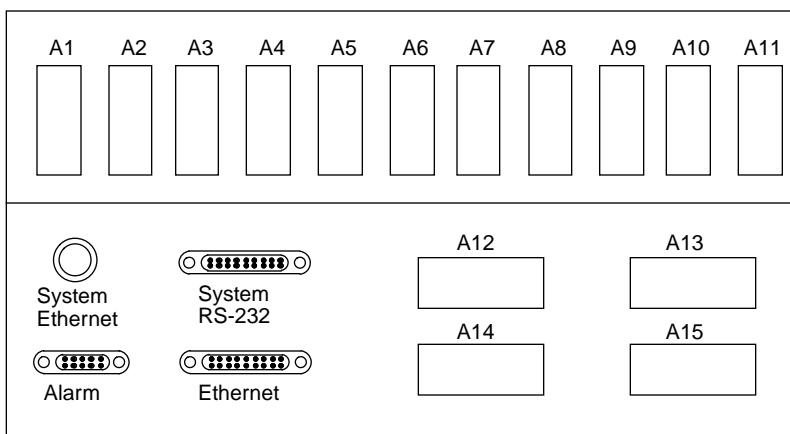
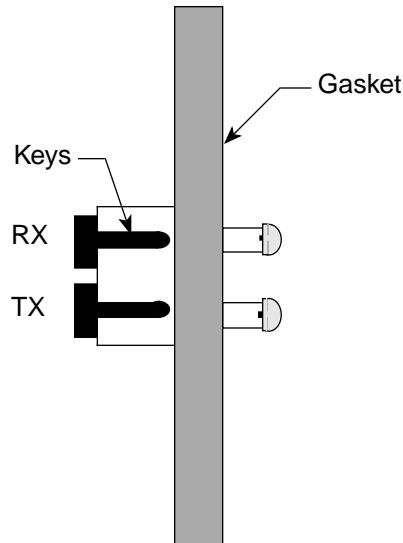

Figure 3. I/O Bulkhead
Figure 4. ATM-1V Bulkhead Connector Assembly
1. Remove the cover plates from I/O bulkhead location A14 or A12. Refer to Figure 3. Each cover plate is connected by two screws.
2. Install the assembled ATM bulkhead plate into slot A14 or A12 with the keys facing upwards. Refer to Figure 4.
5. Reconnect the flexible cable way using the two screws originally removed from the flexible cable-way bar. Refer to Figure 4.
Connect the multimode 3-meter cable assembly (P/N 90369300) cable to the I/O bulkhead plate as shown in Figure 3. Ensure that the keys are facing upwards as shown in Figure 4, and then connect the cable connectors labeled RX and TX.